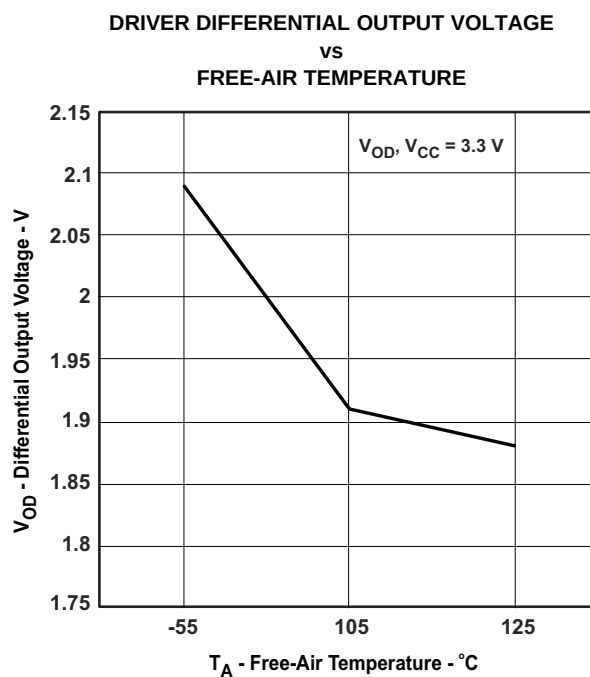
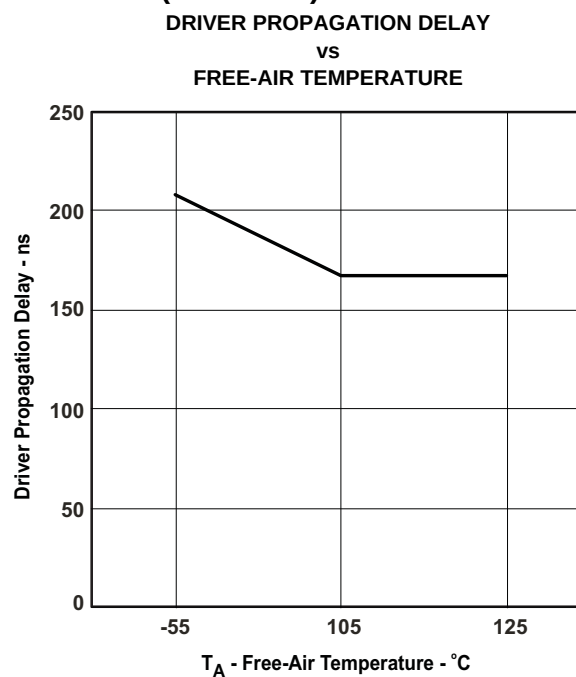

Figure 19.
Figure 20.
- Added devices ISO15M and ISO35M to the data sheet - Changed Description - From: The ISO15 and ISO35 are qualified for use from -40°C to 85°C. To: The ISO15M and ISO35M have extended ambient temperature ratings of -55°C to 125°C while the ISO15 and ISO35 are specified over -40°C to 85°C. - Added the Product Information table - Added Added Ambient Temp information in the RECOMMENDED OPERATING CONDITIONS table - Added ISO15M and ISO35M to the Operating junction temperature in the RECOMMENDED OPERATING CONDITIONS table - Changed the DRIVER ELECTRICAL table, I_{OZ} High-impedance state output current - Test Condition V_Y or $V_Z = 12\text{ V}$, $V_{CC} = 0$ values From: TYP = -10 , MAX = - To: TYP = -, MAX = 90. - Changed the DRIVER ELECTRICAL table, I_{OZ} High-impedance state output current - Test Condition V_Y or $V_Z = -7\text{ V}$ values From: TYP = -, MAX = 90 To: TYP = -10, MAX = - - Added t_r, t_f limits for the ISO15M ans ISO35M devices - Added I_A or I_B limits for the ISO15M ans ISO35M devices - Added pulse skew limits for the ISO15M ans ISO35M devices - Added t_r, t_f for the ISO15M ans ISO35M devices - Added the Driver output pins Note for Figure 1 through Figure 4 - Changed the Driver output pins Note for eFigure 5 through Figure 6 - Added Note 1 to Table 1 Driver Function Table - Added Note 1 to Table 2 Receiver Function Table - Changed Figure 19 - replaced curves - Changed Figure 20 - replaced curves	1 1 1 2 2 3 3 3 4 4 4 4 5 6 9 9 14 14